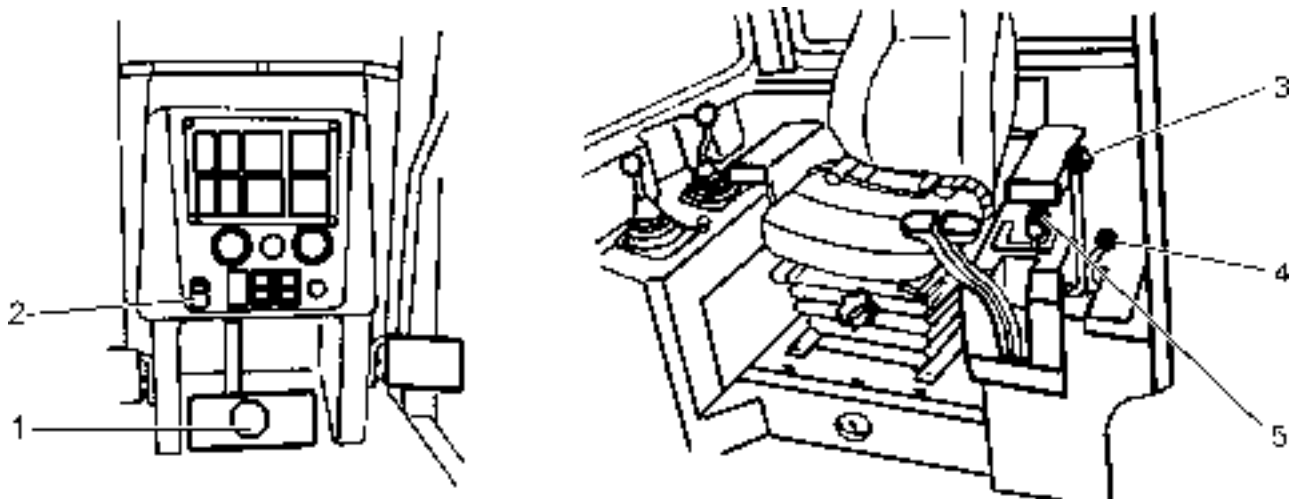

Fig. 4.18. Driving the Machine
4.8. DRIVING THE MACHINE (Fig. 4.18)
DRIVING THE MACHINE (Fig. 4.18)